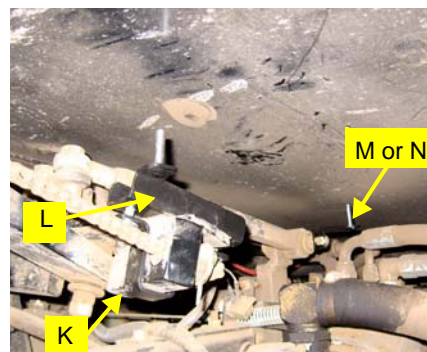

Figure 5b: Cylinder mounts
- b. Mount the cylinder head bracket (L) to the steering pivot arm, using the provided hardware (O) with the hammer strap (K). (Figure 5b)
- c. Remove the outside lock nut from the bolt connecting the hydro arm to the left control arm. Attach the cylinder rod end bracket (M) or (N) between the two nuts. The shorter bracket (N) will be used on the following model; MacDon and Westward 9250, 9350, 9352, 9352i, 9352c, Prairie Star 4940, 4950, 4952. Harvest Pro: 8140, 8150, 8152i, 8152c.